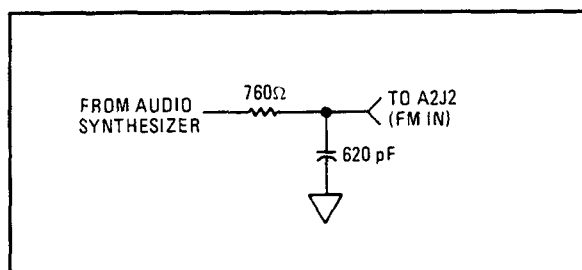

Figure 8F-15. Filter for $\boxed{\checkmark 1}$ Step 10
10. Construct the input load for the FM input as shown in Figure 8F-15. The 760 Ω resistor can be constructed from a 909 Ω resistor in parallel with a 4640 Ω resistor.